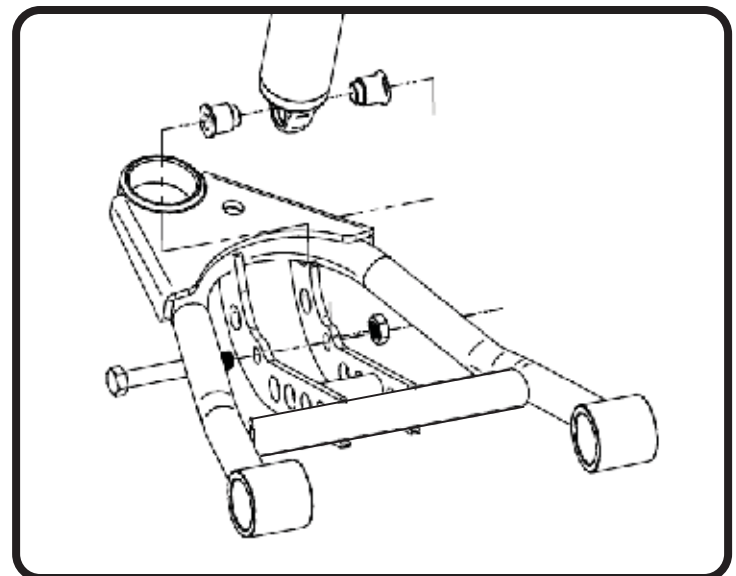

Figure 5
7. Insert an aluminum shock spacer into each side of the shock bearing, raise the lower arm up to the ShockWave and attach the shock to the arm using the $\frac{1}{2}$ " x $3\frac{1}{4}$ " bolt and Nylok nut supplied with the lower arms (Figure 5). Torque to **75 ftbs**.